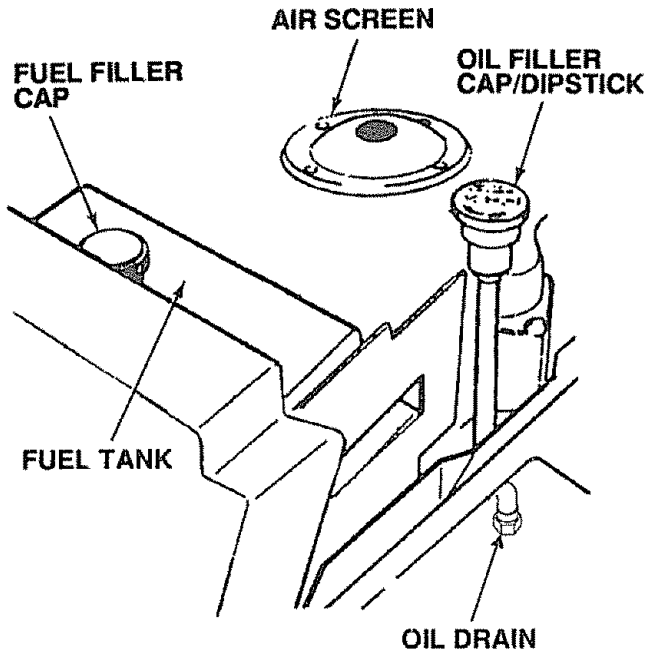

FIGURE 6
- Fill fuel tank (Fig. 6). Use fresh, clean, regular unleaded gasoline. Capacity is 5 quarts (4.7 litres).